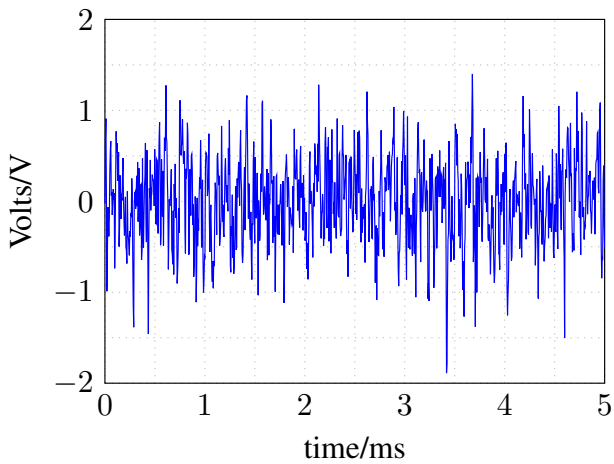

Fig. 46: White noise observed on WHT. The signal amplitude was adjusted on TR6 while utilizing the VU meter.
6. Adjust TR6 for a solid illumination of the yellow LED on the VU meter. The red LED might flicker up once in a while. The oscilloscope will indicate white noise (Fig. 46).